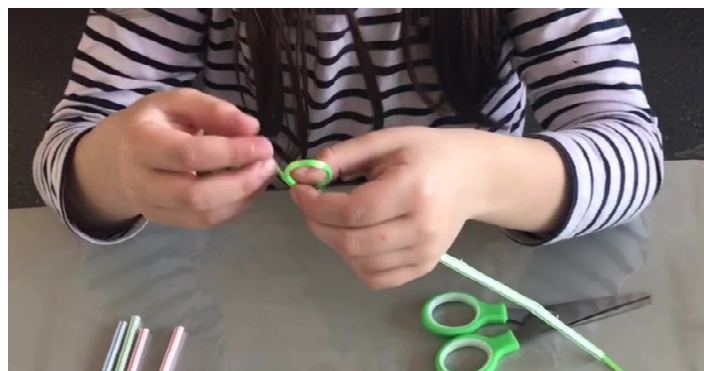

Figure 13: Making a knot in one end of the thread
8. Tie a knot in one end of each piece of thread (see Figure 13). The knot must be at the end of the straw that is closest to the first cut, and it must be big enough so that it will not pass through the straw. You may have to make several overlapping knots.